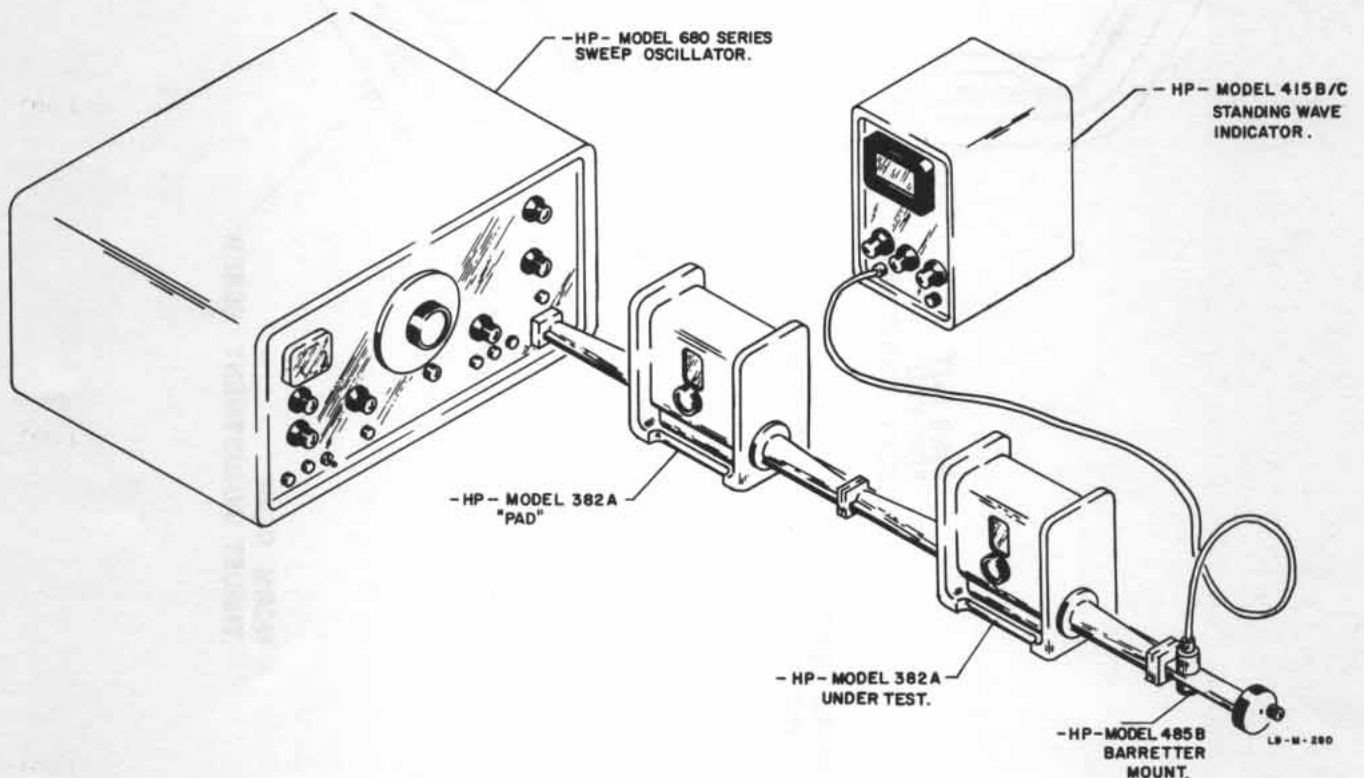

Figure 3. Test Setup for Calibrating Model 382A
12) Set up test equipment as shown in figure 3.